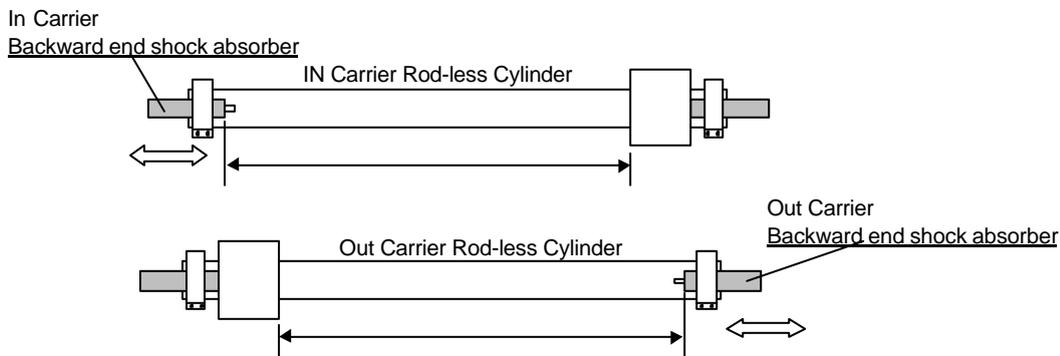

Figure 6
1. Check the stroke of the IN and OUT carrier rod-less cylinders as indicated in the following table and Fig. 6.